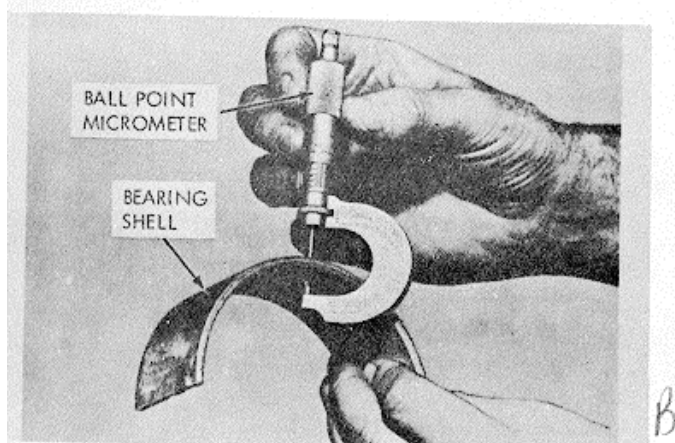

Figure 3-220. Measuring thickness of bearing shell.
(1) Gage shell with ball point micrometer, dial indicator thickness gage, or comparator. Refer to figure 3-220.
(2) Discard shells that are worn more than 0.002 in. or if chipped, flaked, or scored. See table 2-2 for thickness of standard shells.
(3) Total worn maximum oil clearance should not vary more than 0.002 in. between adjacent main bearings. See table 2-2.